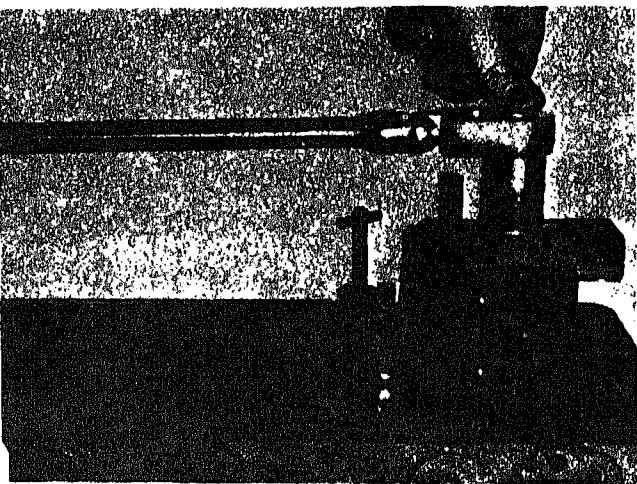

Fig. 2-1-14. Regroove cylinder head
If the cylinder head has been resurfaced or has not been grooved previously, it will be necessary to cut grooves in the cylinder head over each cylinder liner. These grooves will assure a better seal between the cylinder head gasket and block during engine operation. Fig. 2-1-14. Use ST-597 or ST-913 Cylinder Head Grooving Tool to perform this operation.
- (1) Place housing, with tool holder secured in place, on a surface plate or similar flat surface.
- (2) Loosen setscrews holding tool adjusting screw and turn adjusting screw down until tool cutting bit touches surface plate.
- (3) Remove grooving tool from surface plate and turn adjusting screw down three notches, or  $60^\circ$ , to lower cutting tool bit approximately 0.006 in. [0.1524 mm].
- g. Rotate grooving tool clockwise to cut groove. The tool bit is spring loaded in the tool holder and will ride over any "hard" spots on the head surface. It may take two or three revolutions to get a smooth even cut in the head. Fig. 2-1-14.